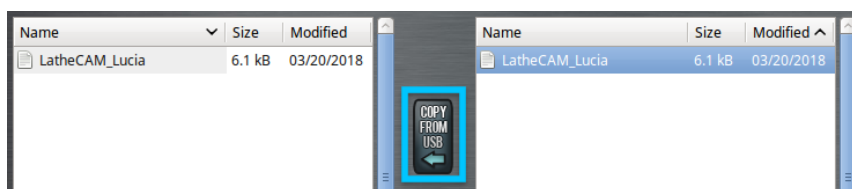

FIGURE 3.5: COPYING THE FILE FROM THE USB ONTO THE LATHE HARD DRIVE.
- Select your file and click **Copy From USB**, Figure 3.5.